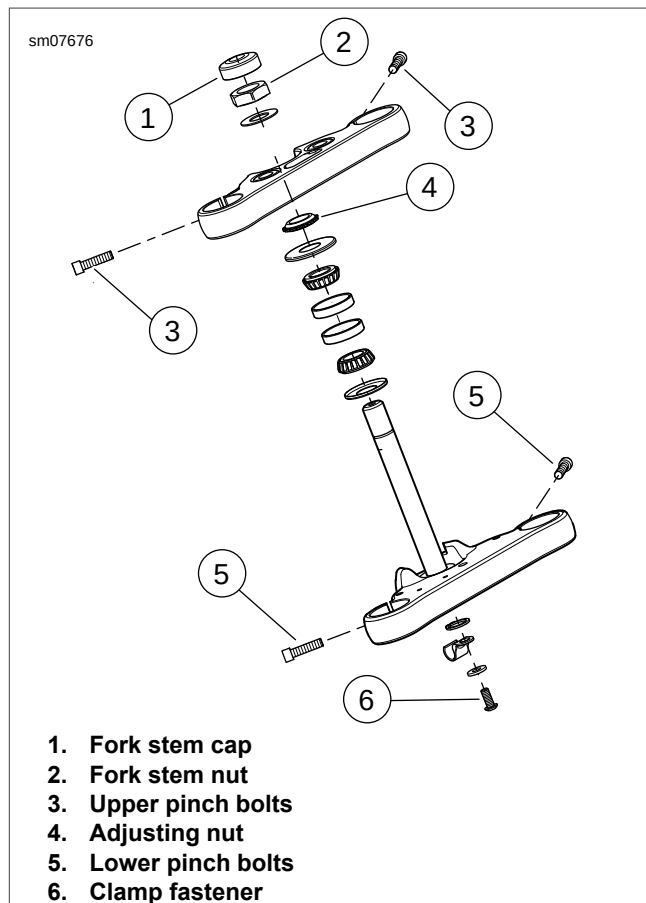

Figure 1-45. Steering Head: FXSB
- a. See Figure 1-45. Loosen the lower pinch bolts (5).
- b. Remove fork stem cap (1).
- c. Loosen the fork stem nut (2).
- d. Loosen the bearing adjustment nut (4) slightly.
- g. Install fork stem cap (1).
- a. See Figure 1-45. Loosen lower pinch bolts (5).
- c. Loosen fork stem nut (2).
- d. Tighten bearing adjustment nut (4) slightly.